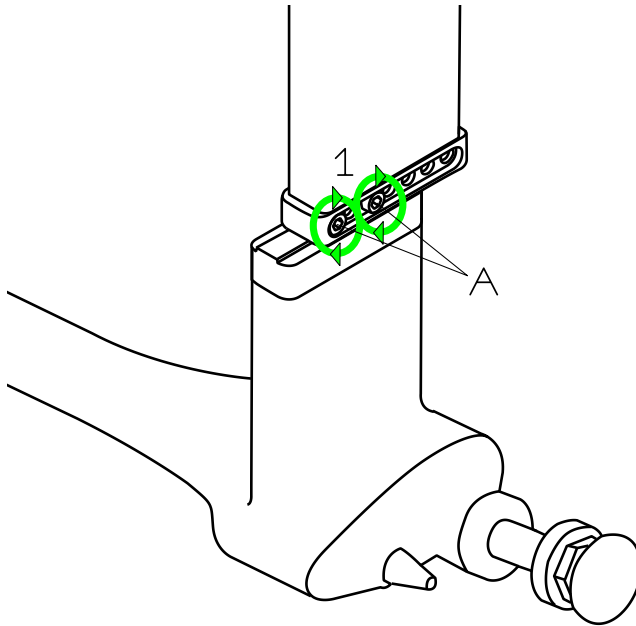

Figure 5.2
- Re-tighten the two Allen (Hex) screws on both sides of the wheelchair once the adjustment has been made (Fig 5.2, A)